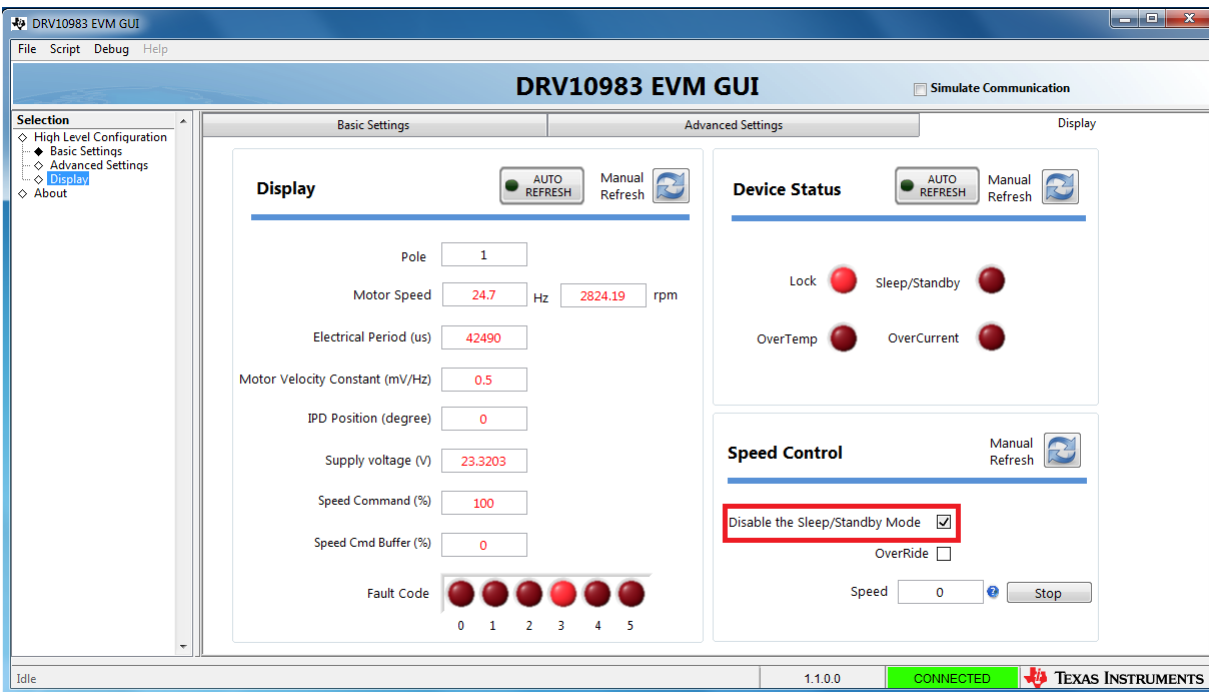

Figure 8. Disable Sleep Mode
8. In the Display tab, disable Sleep mode as shown in Figure 8